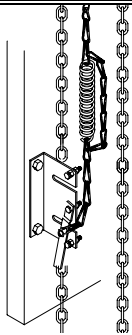

Figure 22 Disengaged position
1. Pull the disconnect lever downwards to the "disengaged" position (Figure 22). A positive engaging coupling disengages the initial drive mechanism from electrical operation and transfers it to manual chain hoist drive. A switch disconnects the electrical controls to prevent injuries.